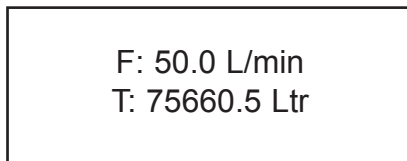

Figure b-4: GFM2 Main Screen
**NOTICE** After 6 minutes of the initial powering of the GFM2 transducer, the status LED will emit a constant GREEN light (normal operation, ready to measure). For GFM2 with LCD option, the screen will reflect flow and totalizer reading. (see Figure b-4).
4. Release maintenance push button after 6 seconds. For GFM2 with optional LCD, when GFM2 Main Screen appears (see Figure b-4).